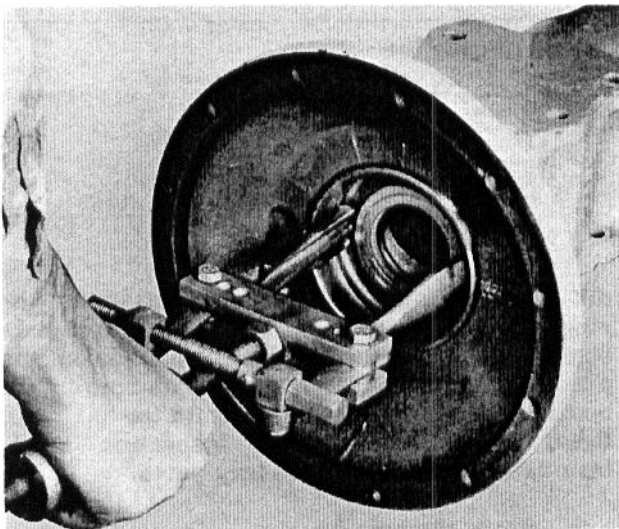

Fig. 27 - Removing Inner Axle Planetary Carrier Bearing
5. Remove the inner axle planetary carrier bearing cup from the axle housing as shown in Fig. 27. If shims located behind the cup are not damaged, save them for possible use when pre-loading and reinstalling the planetary assembly.